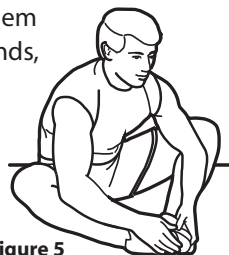

Figure 5
**Adductor (Inner Thigh) Stretch:** Sit with the soles of your feet together and knees out to the sides. Grasp your feet with both hands and pull them towards your groin area. Hold for 10-15 seconds, then relax. Repeat 3 times (see Figure 5).